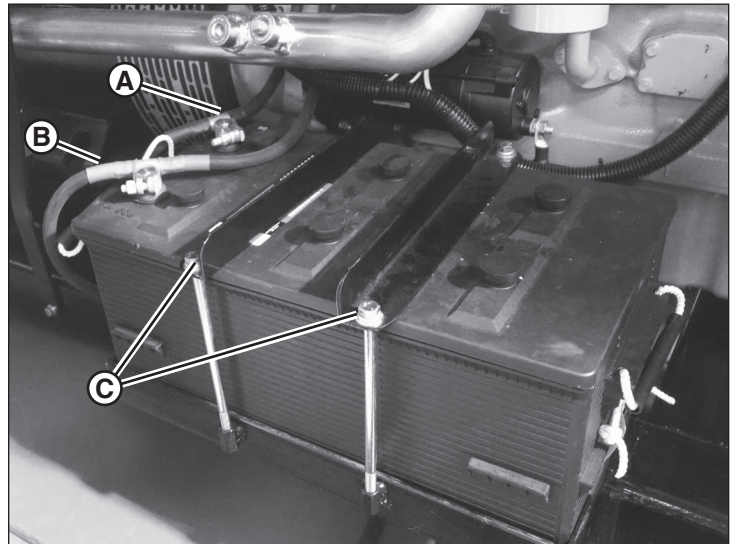

Figure 30
1. Disconnect the black negative (-) cable (A, Figure 30) from the negative (-) battery terminal, and secure away from the battery.
2. Disconnect the red positive (+) cable (B, Figure 30) from the positive (+) battery terminal, and secure away from the battery.
3. Remove the hardware (C, Figure 30) securing one side of each hold-down bracket, and swing the brackets off to the rear of the battery.